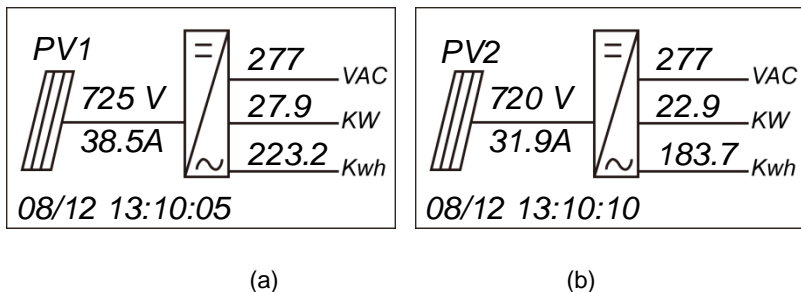

Figure 4-3 Normal operation status
5.) When the LCD screen shows the normal operation status (Figure 4-3) and the “RUN” light on the LED panel lights up, it indicates that the grid connection and power generation are successful.